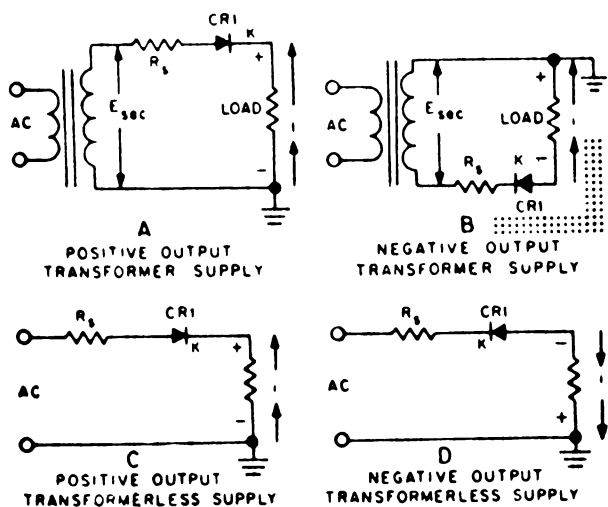

Figure 2-5. Basic half-wave rectifier circuits.
**Half-wave rectifiers.** The single-phase, half-wave rectifier is the simplest type of rectifier circuit. It consists of a semiconductor diode in series with the alternating source and the load. Since the rectifier conducts in only one direction, electrons flow through the load and through the rectifier only once during each complete cycle of the input voltage. Thus, the electron flow through the load occurs in pulses, one pulse for every other half cycle of the input voltage. In figure 2-5, parts A and B illustrate a semiconductor diode, CR1, used in two variations of a basic single-phase, half-wave rectifier circuit. These two circuit variations each employ a transformer (T1) either for isolation or to step up the alternating source voltage to a higher value in the secondary. The use of a transformer in this circuit permits either DC output terminal to be placed at ground potential. The two circuit variations shown in parts C and D of figure 2-5 do not use a transformer, but operate directly from the AC source. Both of the circuits place one side of the AC source at a DC potential, and thus restrict the output of the supply to either a positive DC potential (C) or a negative DC potential (D).
In the four circuits illustrated in figure 2-5, the function of semiconductor diode CR1 is the same for each circuit. Because of the manner in which the diode is placed in the circuit, electrons flow through the load in the direction indicated by the arrow adjacent to the load resistance. The DC output polarity for each circuit is indicated by the signs associated with the load resistance. The triangle in the graphic symbol for diode CR1 points in the direction of forward current flow; electron flow is in the opposite direction. The letter K assigned to one terminal of the graphic symbol for CR1 indicates that this terminal corresponds to the cathode (filament) of an electron-tube diode. Therefore, the terminal represented by the pointed-arrow portion of the graphic symbol corresponds to the plate of an electron-tube graphic diode.
Each of the four circuits in figure 2-5 shows a resistor,  $R_s$ , in series with the semiconductor diode. This resistor, called the *surge resistor*, limits the peak current through the rectifier to a safe value. The value of resistor  $R_s$  is influenced by the circuit design; determination of its value includes the consideration of several other factors, such as the applied AC voltage, the resistance of the load circuit, the filter-circuit input capacitance, and the peak current rating of the semiconductor diode. If there is sufficient resistance in the secondary winding of transformer T1 (shown in parts A and B) or in the AC source (parts C and D), the resistor may be omitted; also, if the load circuit of the supply includes a choke-input filter, the resistor may be omitted.